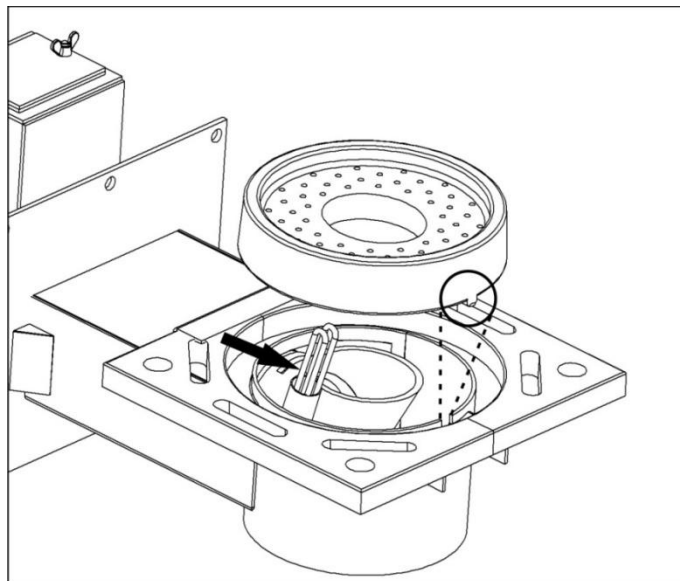

Fig 19. Removing the ignition element
- When you position back the furnace plate, be careful to fix it correctly with the fixing tooth, as shown on Fig 19.